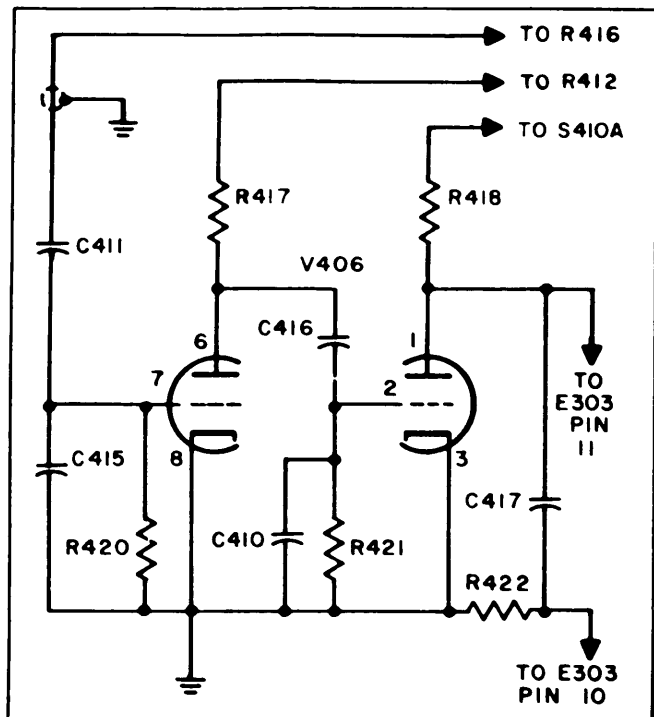

Figure 4-7. Audio Amplifier, Simplified Schematic Diagram
(8) AUDIOAMPLIFIER. - A two-stage audio amplifier V406 is used to amplify the audio output of the mixer stage. (See figure 4-7.) Plate voltage is applied to the amplifier only when S401 is in the CAL position. The output of V406B is applied across ZERO BEAT indicator I303 and to PHONES jack J301.
(9) GROUNDED GRID AMPLIFIER-DOUBLER.